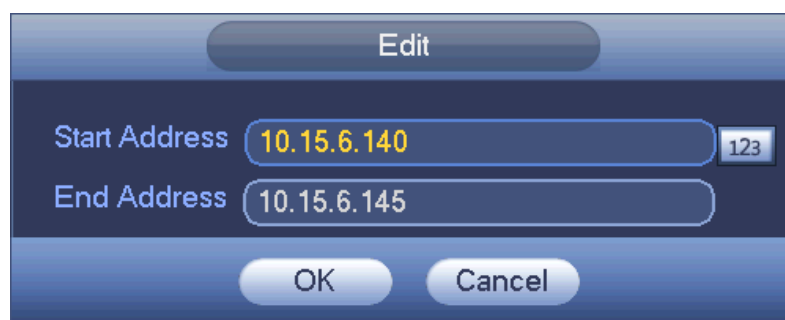

Figure 4-121
- **Edit:** Click it to edit start address and end address. See Figure 4-121. System can check the IP address validity after the edit operation and implement IPv6 optimization.